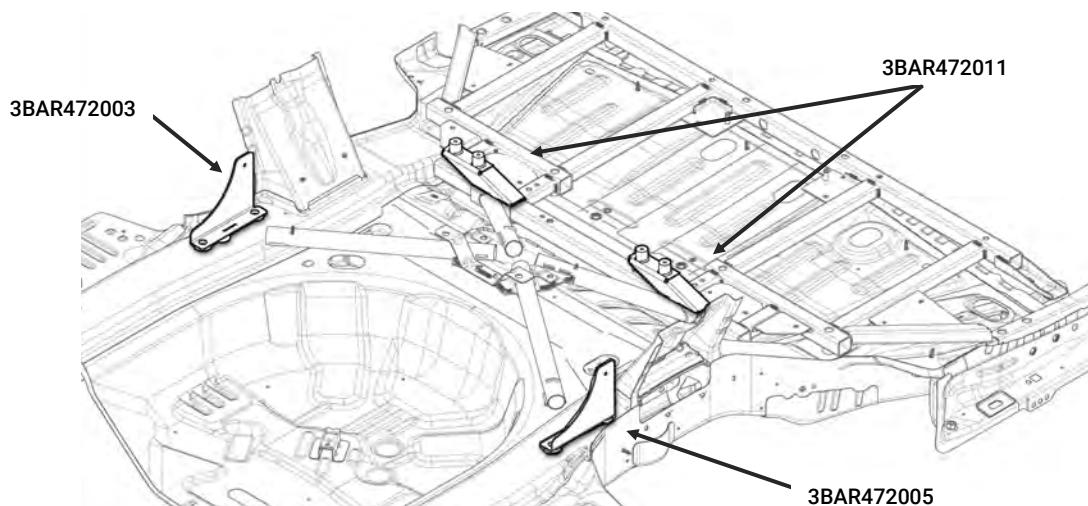

Figure 6
1. Remove the (2) front driver side bolts from the OEM X-brace.
2. Place (1) Barrier Support Bracket [3BAR472011] on top of the X-brace with the standoffs towards the rear of the vehicle. Set the front edge of the bracket just behind the front edge of the X-brace. Reinstall the OEM bolts and torque to factory specifications using an 18mm socket.
3. Remove the (2) rear driver side bolts from the OEM X-brace.
6. Figure 6 shows the brackets installed.